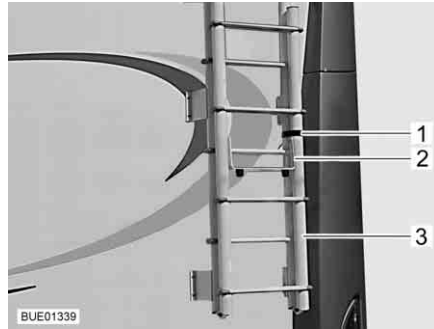

Fig. 1 Foldable ladder, ladder folded upwards
- Open the strap (Fig. 1,1) on the ladder (Fig. 1,3) at the rear of the vehicle.
- Fold out the guard rail (Fig. 1,2).